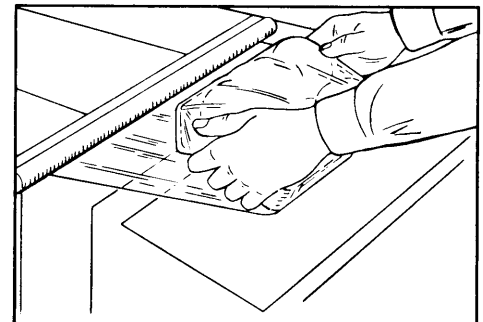

Fig. 6
5. Pick up the package by its sides, pull it back toward the cut-off rod, and cut off the film (Fig. 6).